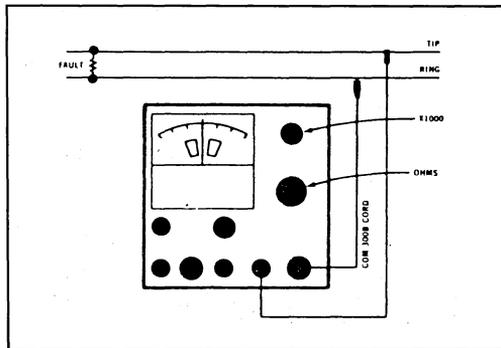

FIGURE 15
4.02 To check for a short on a vacant pair, make the cord connections as shown in Figure 15. Follow the procedure for determining the amount of resistance as described above in Paragraph 4.01 for detecting grounds.
4.04 A particular type of capacity measurement may be made to determine the presence of an instrument connected across a pair. This is done by connecting the clips of the COM 300B cord across the pair as described above in Paragraph 4.02 (see Figure 15), used for checking for shorts. When the Range switch is operated from X1 to X1000, an exceptionally large kick will occur due to the presence of a capacitor in the ringer circuit of the subscriber's instrument.